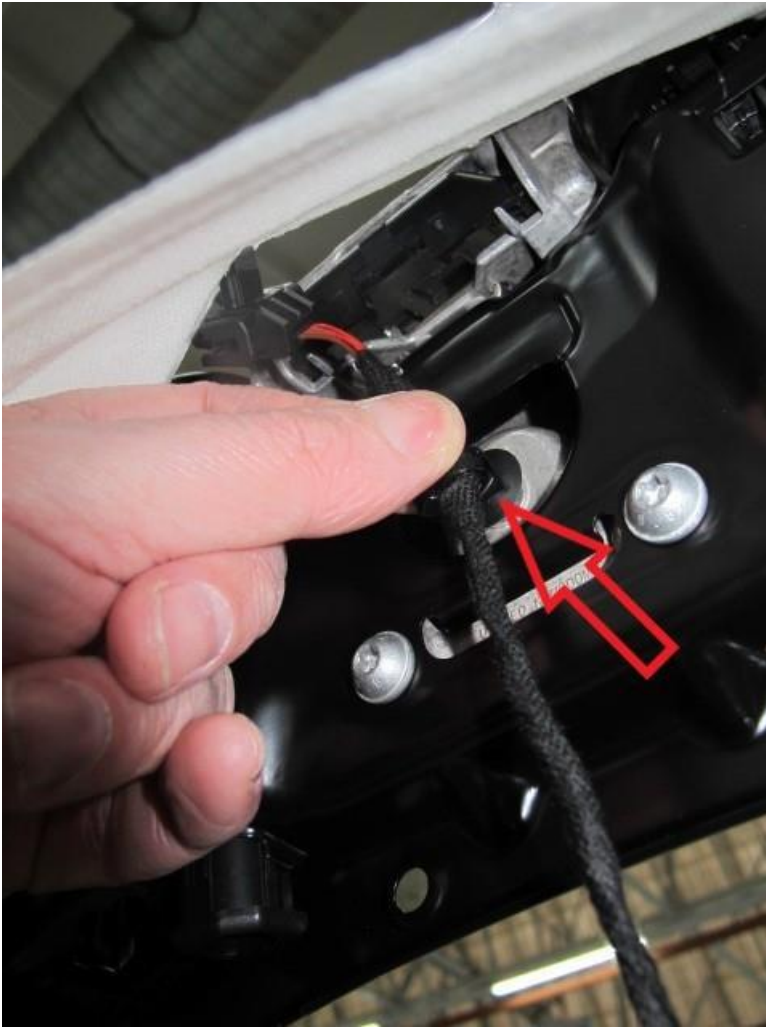

Figure 7
- 6) Referring to Figure 7 - Secure the harness into the seat frame as shown using the pre fitted clip